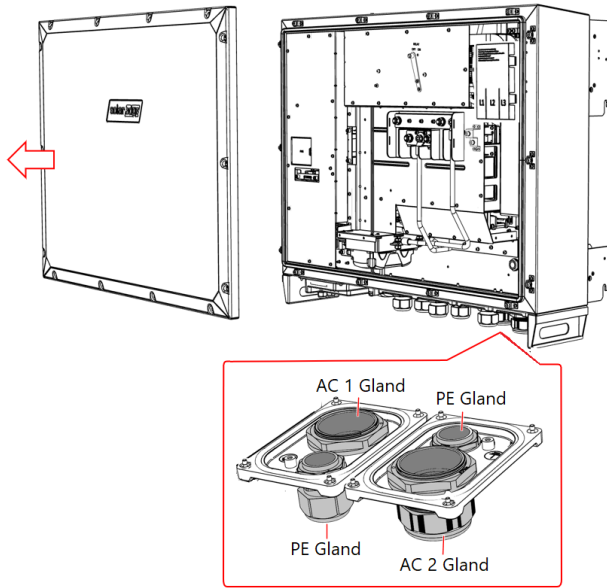

Figure 25: Inverter cover and AC panels
1. Release the Allen screws that secure the front cover to the inverter and carefully remove the cover (see *Figure 25*).
2. Remove the nut from Protective Earth (PE) gland and insert the PE cable through the PE gland (see *Figure 25*).
- Remove the nut from AC 1 and AC 2 cable glands (see *Figure 25*) and lead the cables through the AC glands.